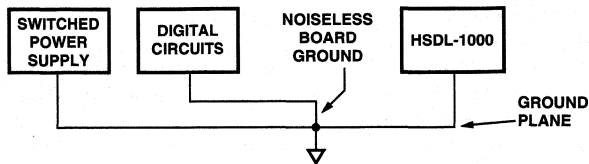

Figure 18a. HSDL-1000 Ground Connection.
4. The ground plane for the HSDL-1000 should have a very low impedance connection to a clean/noiseless ground node. The noise on the ground node should be 10 mV or less for optimum receiver performance. The HSDL-1000 ground plane connection to board ground should be separated by a high impedance to ground connections of power supplies, digital switching circuits, or other noise sources. The impedance between HSDL-1000 ground and noise source ground can be increased by minimizing the conductive or ground plane paths between them (both number of traces and trace size). An example of this recommended connection is shown in Figure 18a.
- The ground plane for the HSDL-1000 should have a very low impedance connection to a clean/noiseless ground node. The noise on the ground node should be 10 mV or less for optimum receiver performance. The HSDL-1000 ground plane connection to board ground should be separated by a high impedance to ground connections of power supplies, digital switching circuits, or other noise sources. The impedance between HSDL-1000 ground and noise source ground can be increased by minimizing the conductive or ground plane paths between them (both number of traces and trace size). An example of this recommended connection is shown in Figure 18a.